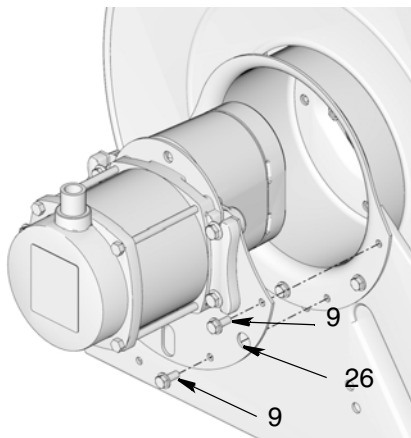

FIG. 7: Electric Motor Shown
3. Remove motor module (26) (FIG. 7).
- a. Remove bolts (9) holding motor module (26) to reel.